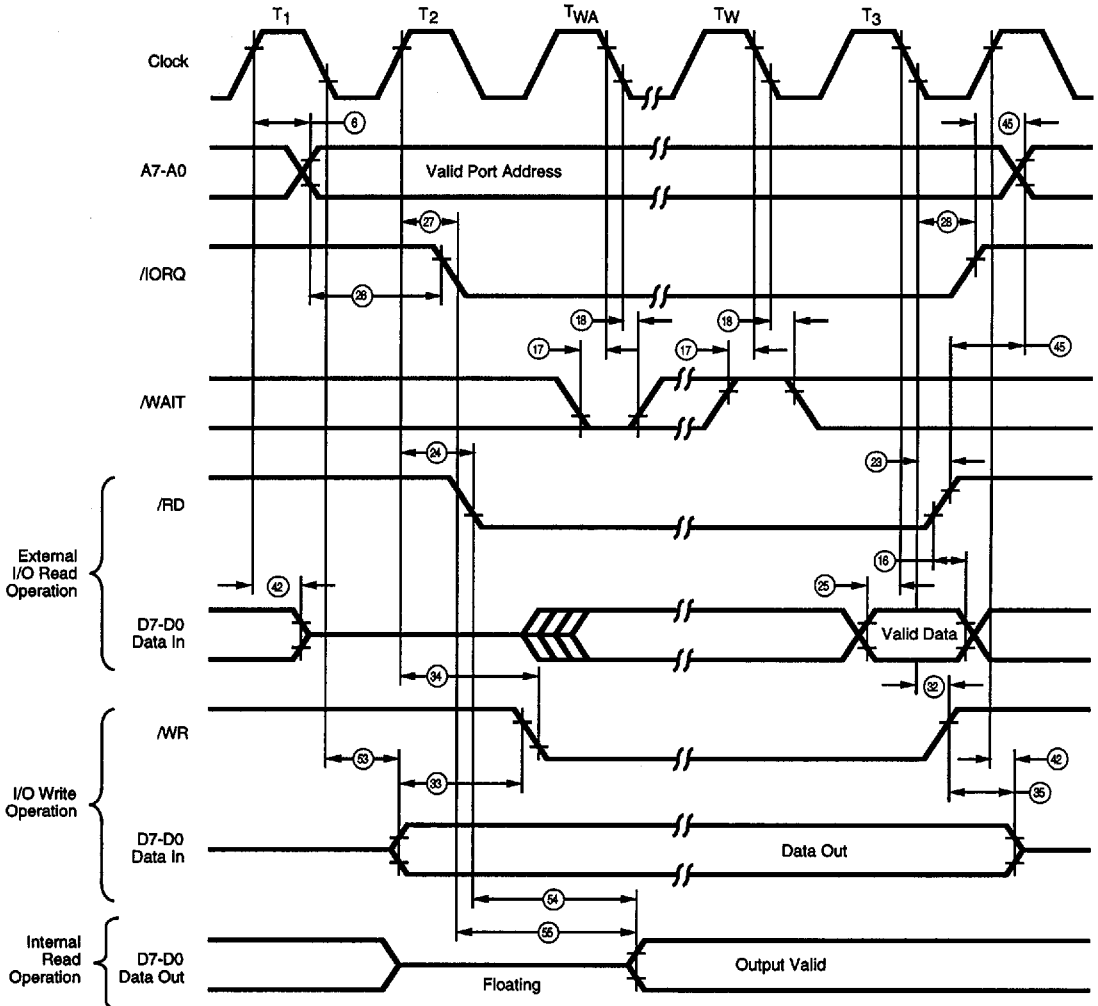

**Figure 41. Memory Read or Write Cycle**
**Memory Read or Write Cycles.** Figure 41 shows the timing of memory read or write cycles other than an Op-Code fetch (*M1*) cycle. The */MREQ* and */RD* signals function like the Op-Code fetch cycle.